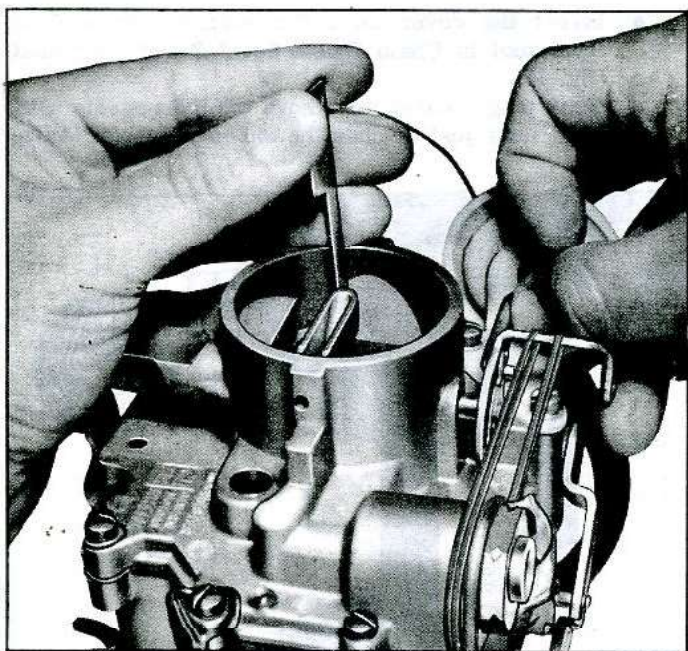

Fig. 14—Vacuum Diaphragm Adjustment
- Measure clearance between lower edge of choke valve and wall of bowl cover. Clearance should be  $.180$ "-. $.195$ " (fig. 14).